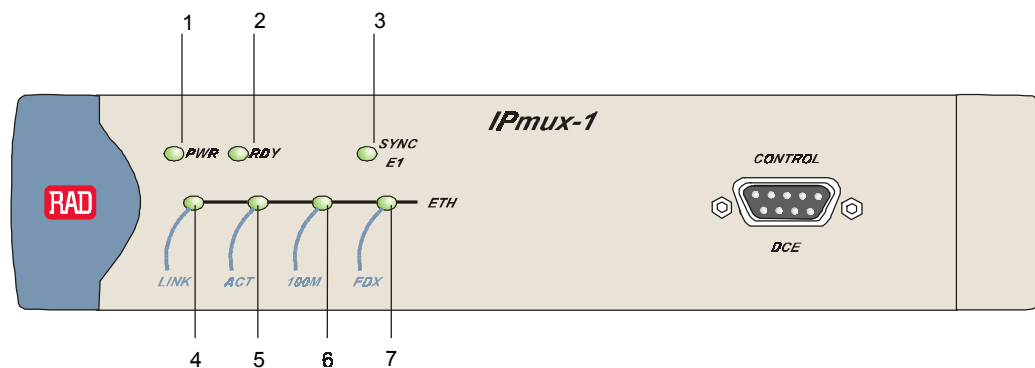
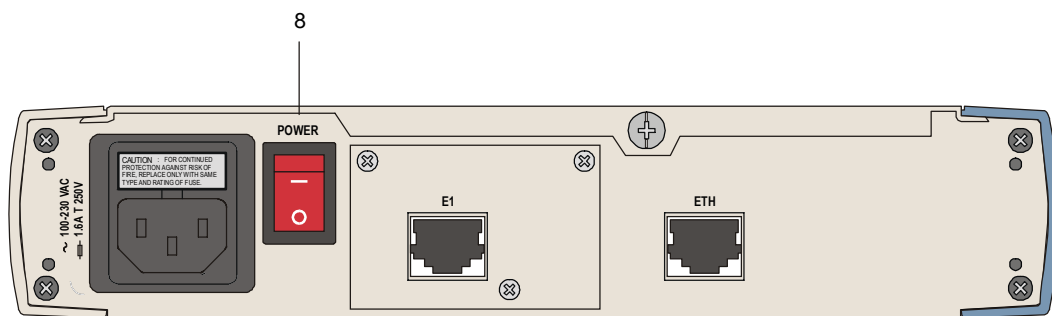
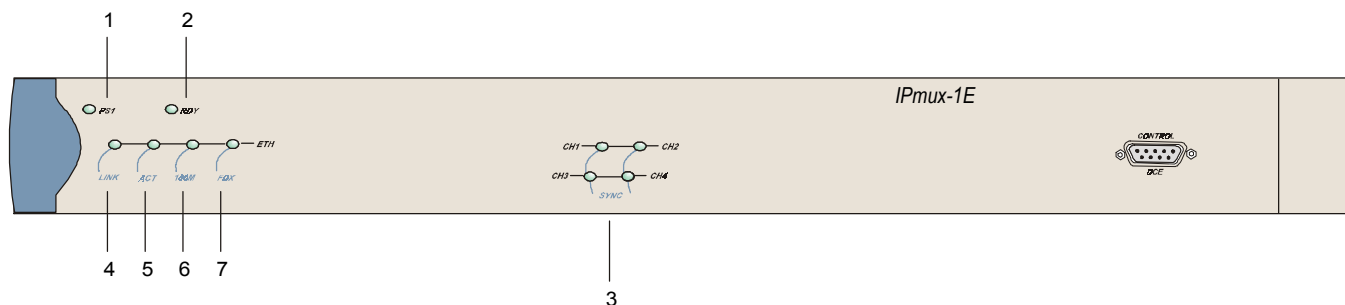
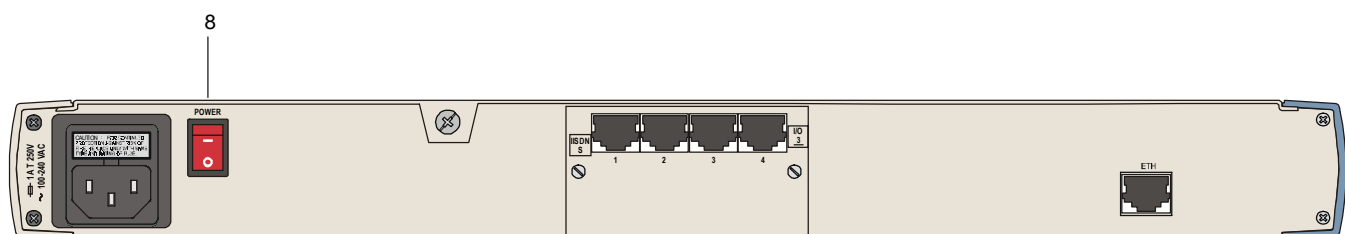

Figure 3-1. IPmux-1 Front Panel LEDs
Figure 3-2. IPmux-1 Rear Panel Switch
Figure 3-3. IPmux-1E Front Panel Indicators
Figure 3-4. IPmux-1E Back Panel Indicators
The unit's LEDs (see *Figure 3-1*, *Figure 3-2*, *Figure 3-3* and *Figure 3-4*) are located on the left side of the front panel. *Table 3-1* and *Table 3-2* list the functions of the IPmux-1 and IPmux-1E system indicators and switches.
The IPmux-1/1E power switch is located on the back panel, as shown in *Figure 3-2*.
2. Check the unit LED indicators, located on the left side of the front panel, and the module indicators for proper operation (see *Figure 3-1*, *Figure 3-2*, *Figure 3-3*, *Figure 3-4*, *Table 3-1*, and *Table 3-2*).
5. When the initialization and self-test are over, a menu appears displaying initialization and self-test results. If the self-test is successful, the RDY LED (*Figure 3-1* and *Figure 3-3*) on the left side of the front panel lights. If problems are encountered, refer to *Chapter 4* for instructions.
After installation, there are no special operating procedures for IPmux-1/1E. Once it is powered up, the unit operates automatically. The front panel LED indicators (*Figure 3-1* and *Figure 3-3*) indicate proper operation. The unit operational status can be monitored constantly.